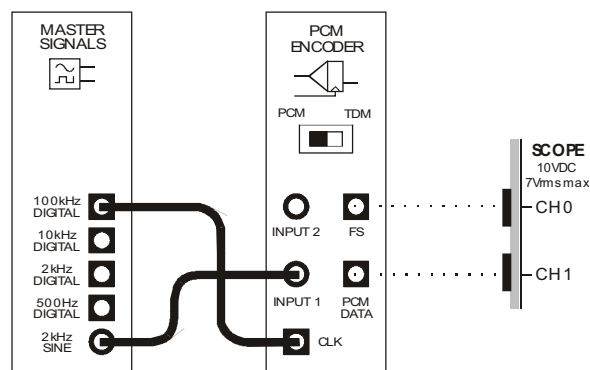
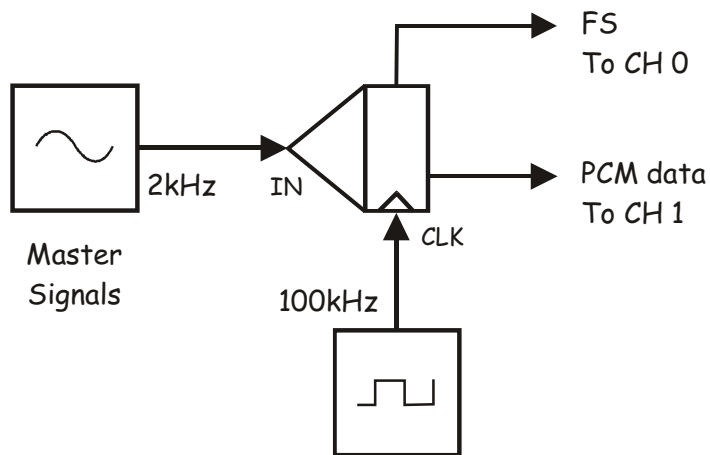

Figure 9
Figure 10
33. Modify the set-up as shown in Figure 9 below.
The changes to the set-up shown in Figure 9 can be represented by the block diagram in Figure 10 on the next page. The VarDC has been replaced by the Master Signals module's *2kHz SINE* output to model a continuously changing message.